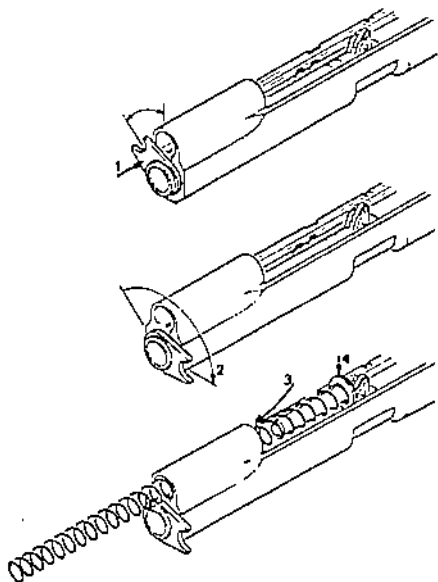

FIGURE 12—INSTALLING BARREL BUSHING AND RECOIL SPRING/S.
2. (**A only**) (See Figure 12). Place barrel bushing over muzzle of barrel and into slide until it is flush with the face of the slide, (STEP 1). Turn bushing clockwise as far as it will go, (Step 2).